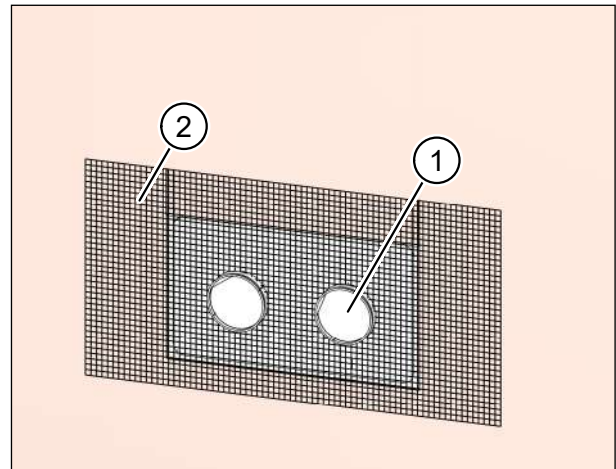
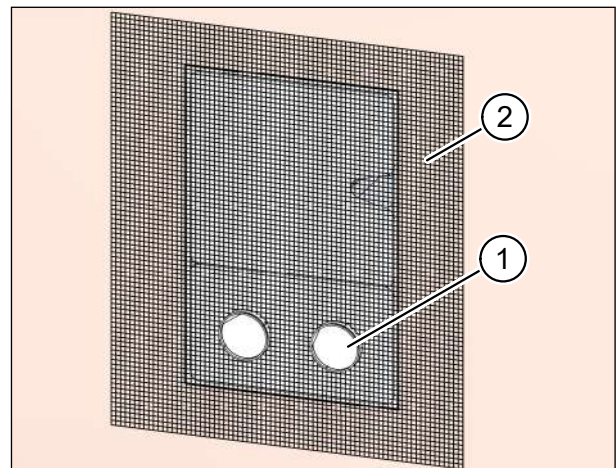

Fig. 36: Plastering the installation kit **without** filler piece
Fig. 37: Plastering the installation kit **with** filler piece
- ▶ Insert the protective sleeves (item 1 in Fig. 36 and Fig. 37). They should extend beyond the solid wall so that they will end flush with the subsequent plaster coat. The protective sleeves provide the bonding surface for the external plaster.
- ▶ Apply the plaster scrim (item 2 in Fig. 36 and Fig. 37) to the outside of the wall box, masonry and/or facade insulation.